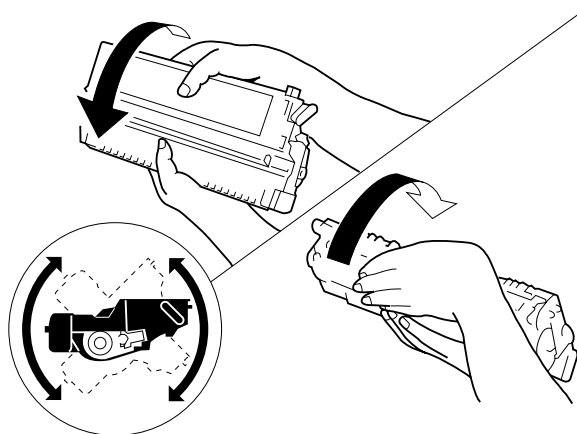

Figure 10-401
- a. Before setting the cartridge in the machine or if copies have white spots as when it starts to run out of toner, hold the cartridge level and shake it about 90° several times as shown in Figure 10-401 to even out the toner inside.